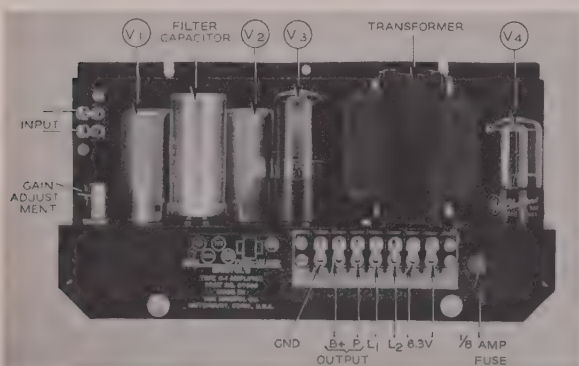

FIGURE 11. SERIES C-1 AMPLIFIER
3. The Amplifier. Plug Dynaprobe into terminal block and apply test prongs across the input terminals of the amplifier (see Figure 11). If amplifier is working properly, the balancing motor will move the pen up or downscale (depending upon phase). Reversing the two test prongs will cause the balancing motor to move the pen in the opposite direction. If the balancing motor does not move the pen up or downscale, disconnect the input leads to amplifier and check again with the test prongs across input terminals to amplifier. If the balancing motor still does not move the pen up or downscale, check fuse in amplifier, replace vacuum tubes and filter capacitor in amplifier. If this does not work, replace the amplifier.